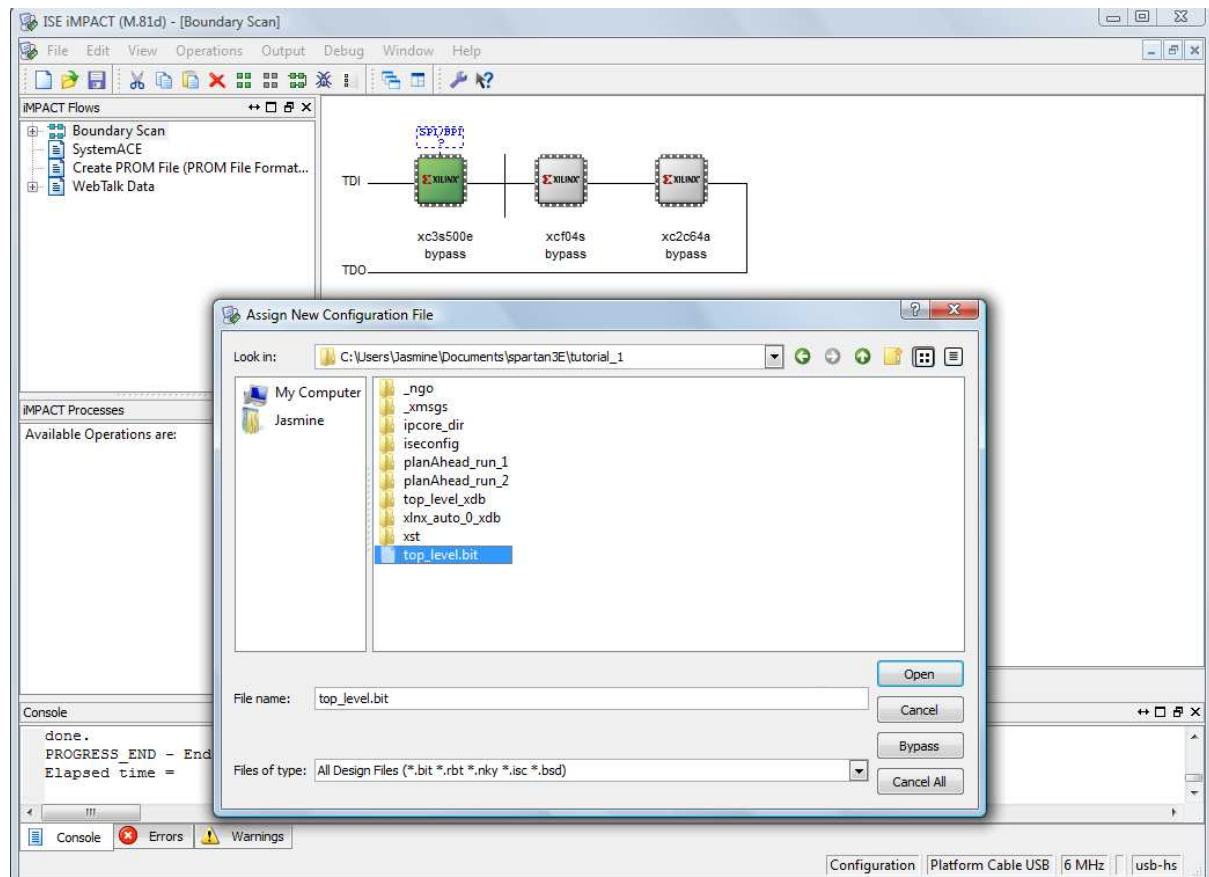

Figure 5.42: iMPACT window, assigning the configuration file for the xc3e500e.
8. The **Assign New Configuration File** window will appear (Figure 5.42). Select the file “top_level.bit”, and click **Open**. This associates the file top_level.bit with the xc3s500e.